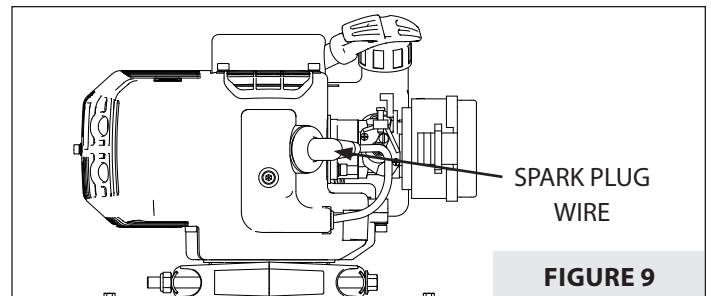

FIGURE 9
2. Disconnect the spark plug wire from the spark plug. **SEE FIGURE 9.**